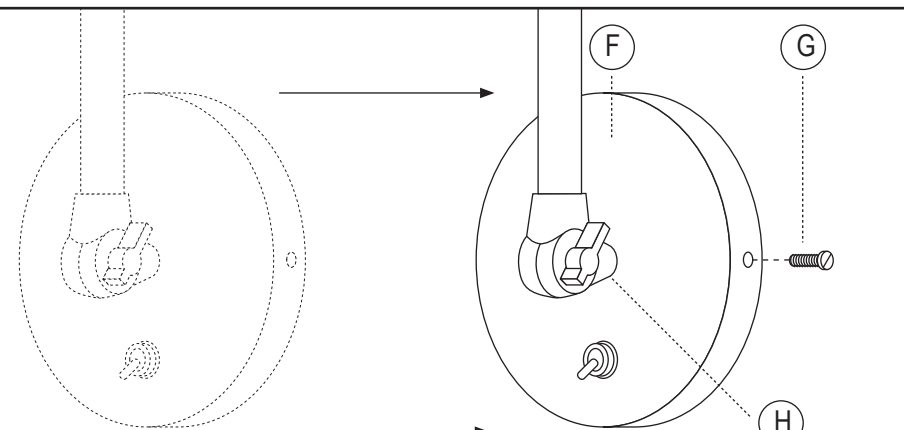

Fig.2
STEP 3 see fig.2
- While supporting the fitting, push the backplate (F) over the fixing plate (D), so that the two side holes line up on both the backplate and the fixing plate.
- Insert the two side fixing screws (G) and screw in firmly, ensuring the fitting is mounted securely to the wall.
- Loosen the knuckle joint by gently turning the handle on the joint (H), while supporting the arm with the other hand.